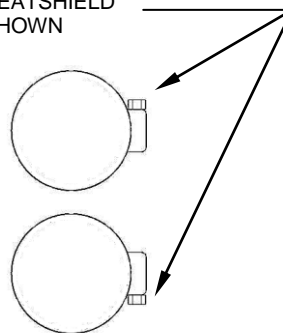

FIGURE 3B
11. Unscrew the hose clamps and feed the tail end of the clamp through the clips on the inside of the heatshields, the larger clamps go to the rear of the heatshields where they will rest on the muffler bodies, smaller ones to the front for the headpipes. The screw end of the hose clamp should be accessible for tightening but not visible when the heatshields are mounted to the pipes. Figure 3B